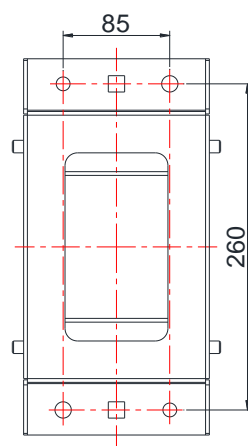

Figure 3.7-7 Drill 4 Holes
Step 3: Take out bracket 2. Drill 4 holes of $\Phi 14$ depth 65~75mm according to the position shown in Figure 3.7-7.